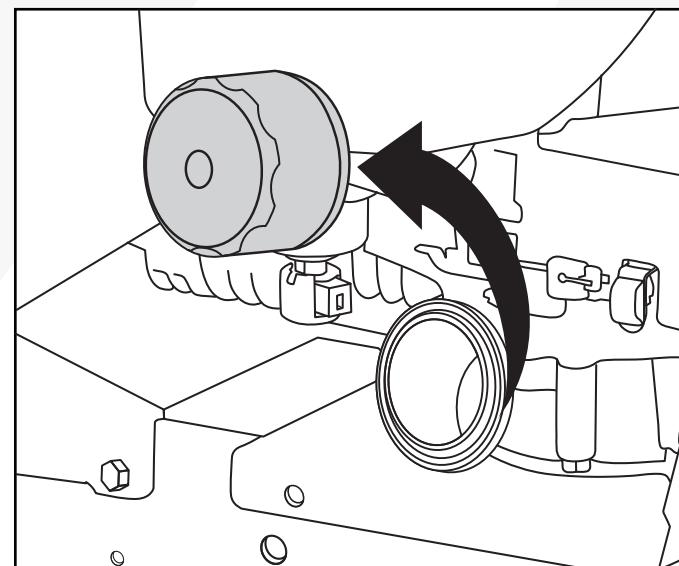

Fig. 38
7. Remove the oil filter (Fig. 38) and discard correctly.